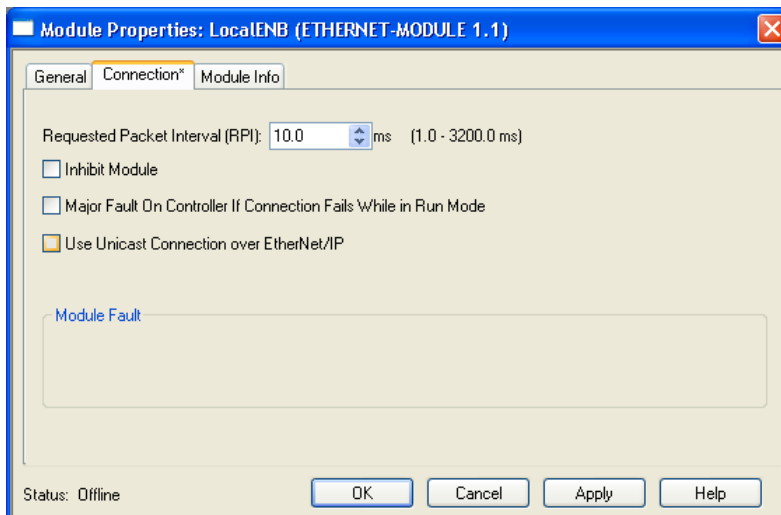

Figure 4-4: Setting Module RPI
5. The “New Module” window now appears as a “Module Properties: LocalENB” window with the Connection tab selected. Set the “Requested Packet Interval (RPI)” value to 20.0 ms (this can be reduced to 10.0ms when not using Workbench in combination with EtherNet/IP). If an option “Use Unicast Connection over EtherNet/IP” is visible, make sure it is unchecked. Click OK. (Figure 4-4: Setting Module RPI).